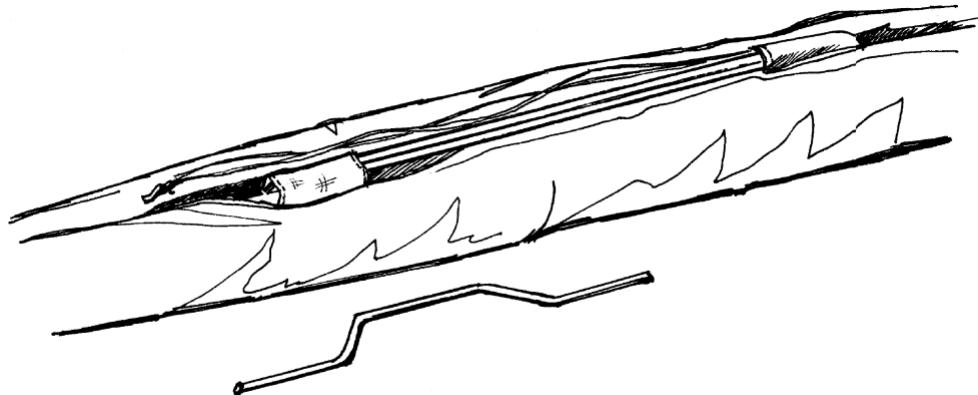

Fig. 46
4.1.9. Place the spreader bar of the hang loop between the uprights. Cover the control bar/keel tube junction by a protective padding (Fig. 46). Bring all wires forward alone tubes and place uprights inside the folded sail. Zip the zipper.